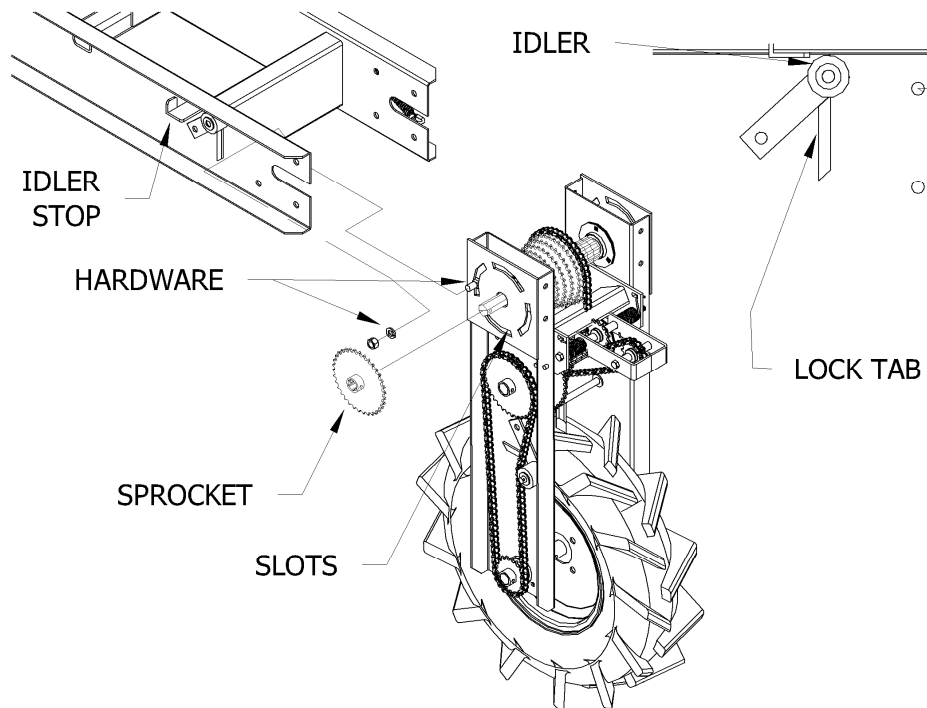

Figure 4
4. INSTALLING GROUND DRIVE TO REACH. (Figure 4)